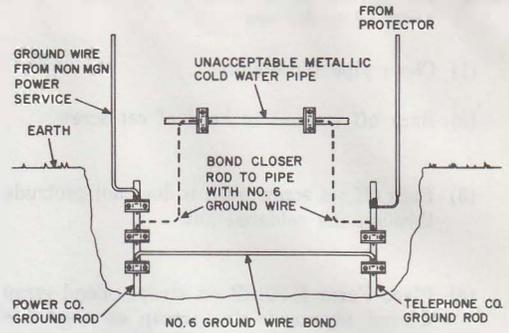
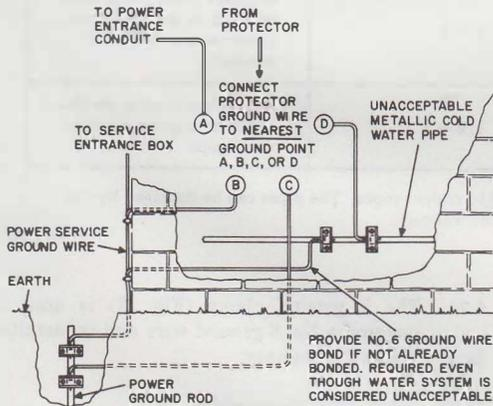

Fig. 46—Unacceptable Water System or Building Ground (Non-Multigrounded Neutral Power System Grounded to Ground Rod)
Fig. 45—Unacceptable Water System or Building Ground (Multigrounded Neutral Power System Grounded to Ground Rod)
6.05 Where the power is grounded to a ground rod and an acceptable water pipe or building ground does not exist, it is necessary to know if the power service is MGN (multigrounded neutral). This information should be obtained according to local instructions. Station protectors installed where an MGN power system is grounded to a ground rod should be grounded as shown in Fig. 45. Where a non-MGN power system is grounded to a ground rod, protectors should be grounded as shown in Fig. 46.